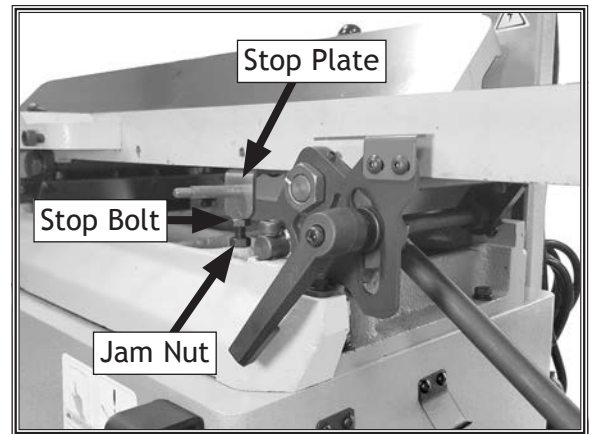

Figure 52. Location of 1/8" infeed table stop bolt and jam nut.
3. Loosen jam nut on the 1/8" infeed table stop bolt (see **Figure 52**), and then rotate stop bolt clockwise a couple turns to move it down, so it will clear the stop plate during adjustment process in later steps.
5. Rotate stop bolt (see **Figure 52**) counterclockwise to move it upward until it makes firm contact with stop plate (see **Figure 52**).
6. Hold stop bolt in place, and tighten jam nut (see **Figure 52**) down firmly against the casting to secure stop bolt in place.